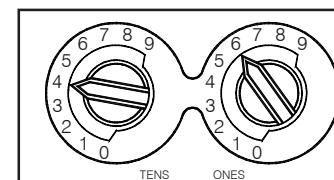

Figure 3. Rotary Decade Address Switches
- a. Set the sensor address (see Figure 3) by using a flat blade screwdriver to turn the two rotary switches, selecting the desired number between 01 and 99. Record the address on the label attached to the base.